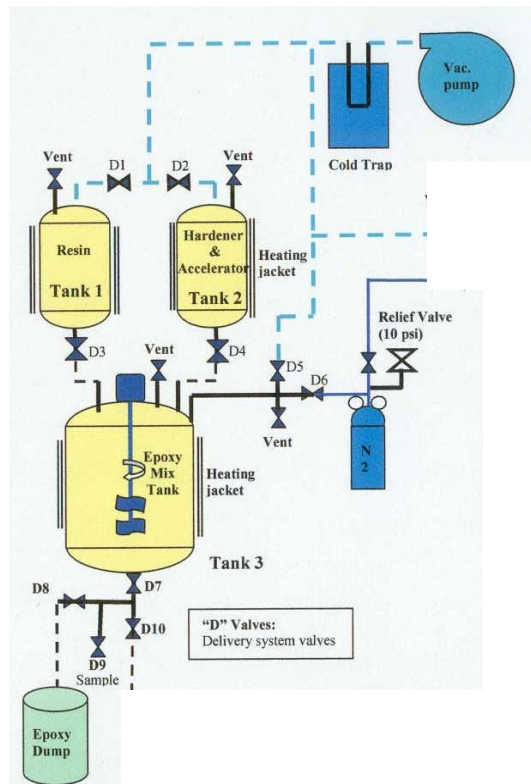

Figure 5- Epoxy Mixing System
- Pour the pre-weighed component of Part A (resin) into Tank No. 1. See Figure 5- Epoxy Mixing System.